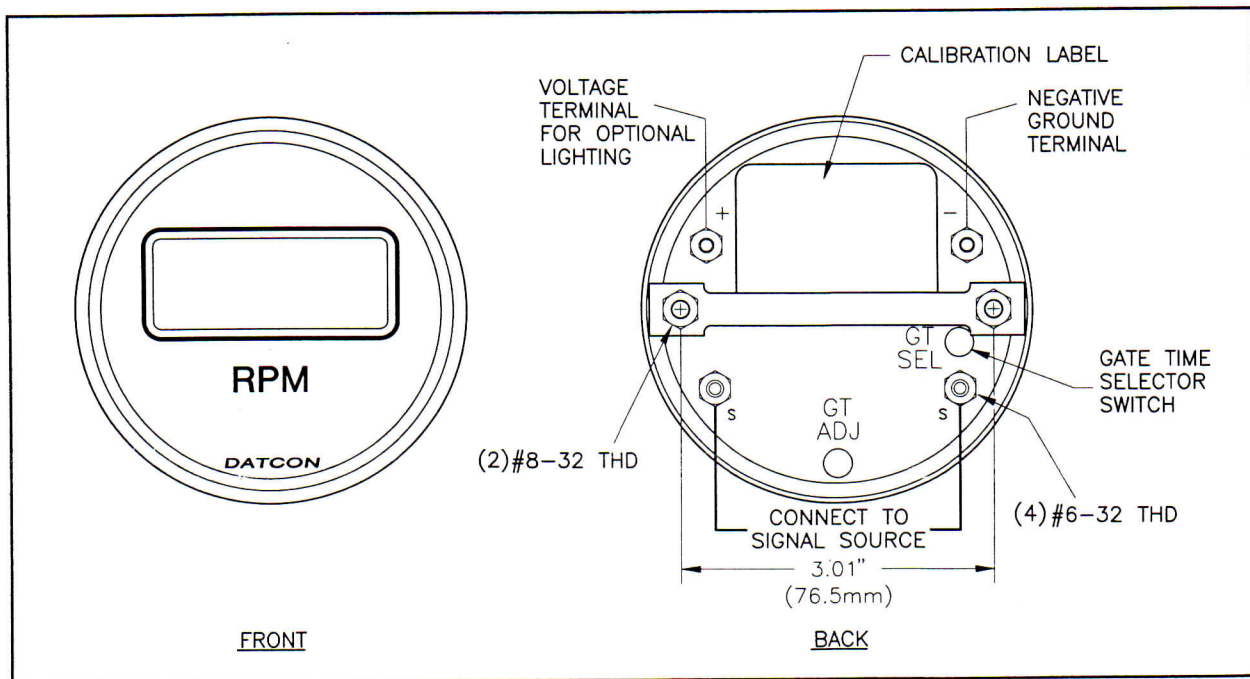

Figure 1-6. LCD Digital Tachometer
- B.** Set switch position according to gate time range. See Figure 1-6.
- Step 4.** Connect leads from pulse source to "S" terminals at back of instrument. See Figure 1-6.